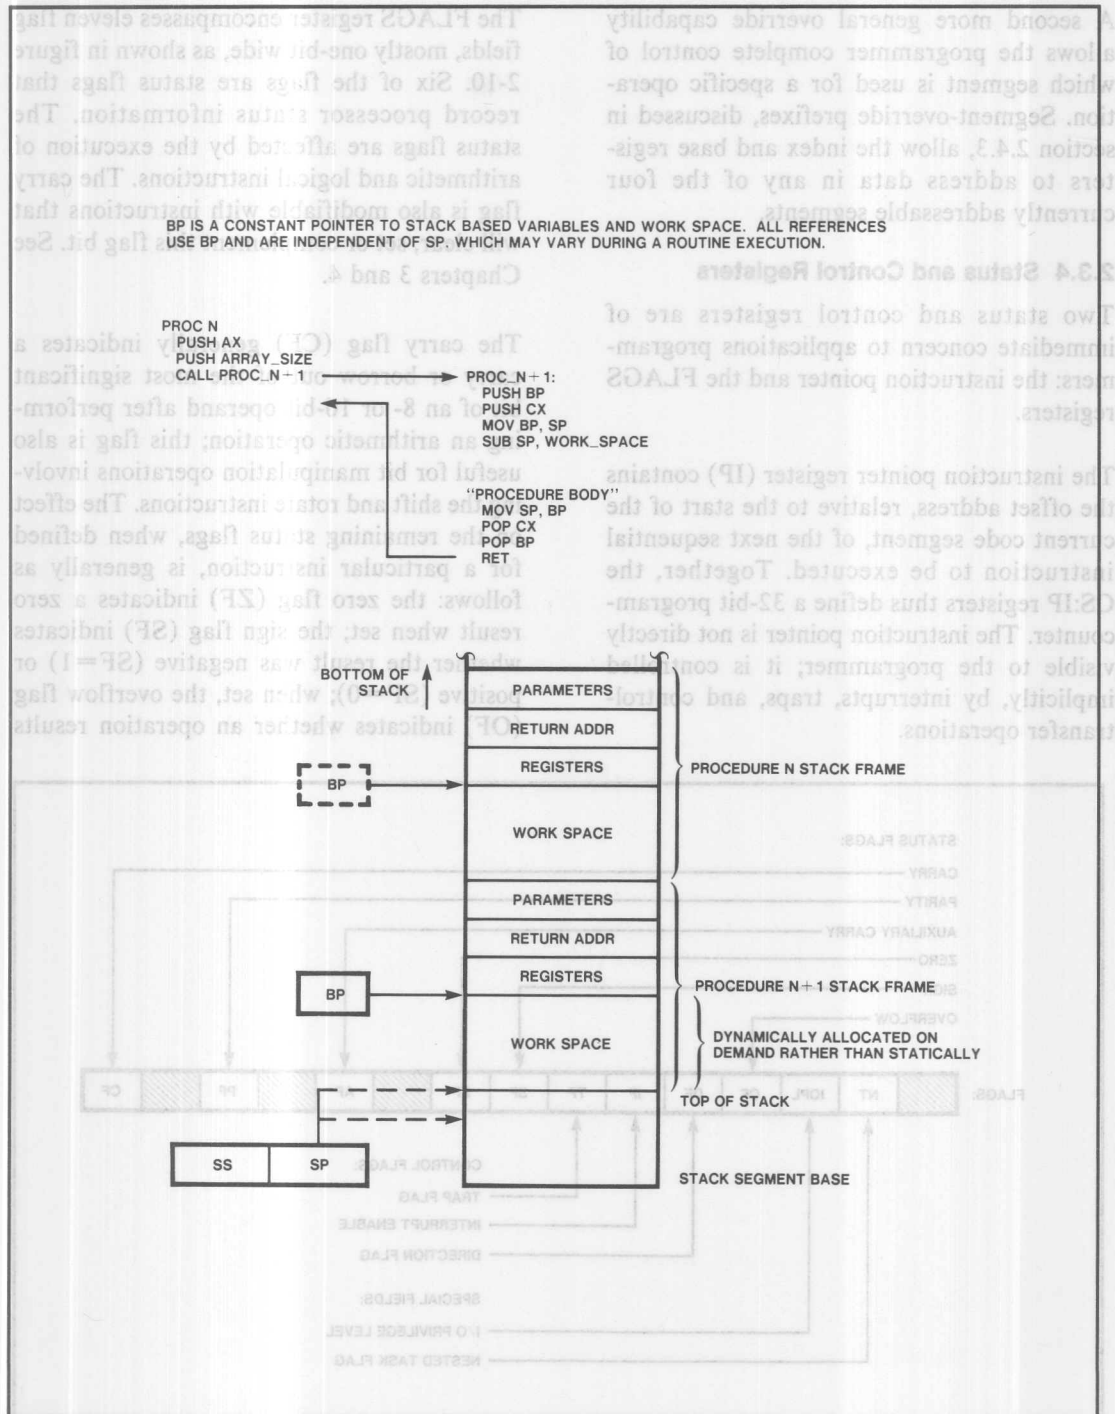

Figure 2-9. BP Usage as a Stack Frame Base Pointer
The stack frame base pointer (BP) is often used to access elements on the stack relative to a *fixed* point on the stack rather than relative to the *current* TOS. It typically identifies the base address of the current stack frame established for the current procedure (figure 2-9). If an index register is used relative to BP (e.g., base + index addressing mode using BP as the base), the offset will be calculated automatically in the current stack segment.